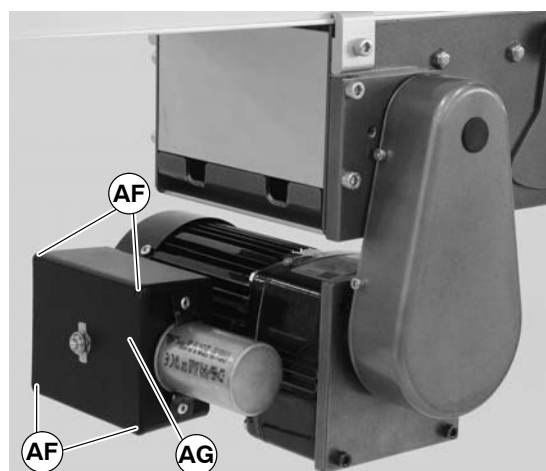

Figure 16
- a. Loosen terminal box screws (AF of Figure 16) and remove cover (AG).